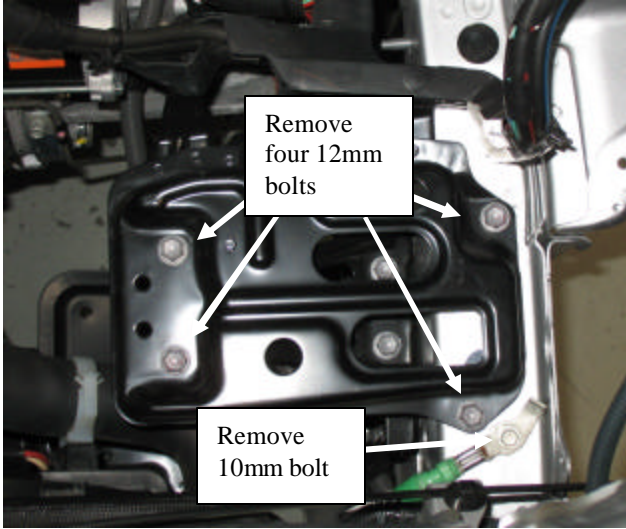

Fig. 3-14
- (4) Unbolt the battery carrier by removing the four 12mm bolts. (Fig. 3-14)
- (5) Disconnect the chassis electrical ground by removing the 10mm bolt. (Fig 3-14)